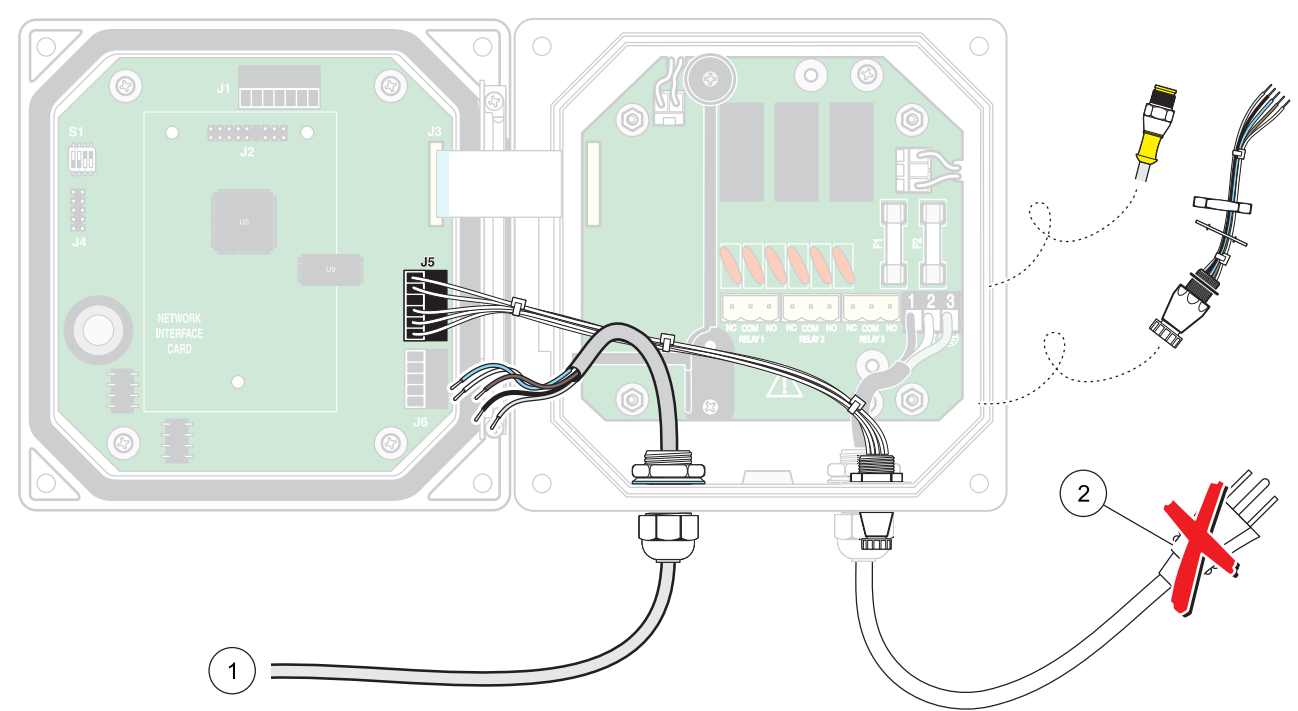

Figure 14 Hard-wiring the SS7 sc
3. Disconnect and remove the existing wires between the quick-connect and terminal strip J5 (Figure 14).
10. Wire as shown in Table 1 and Figure 14.